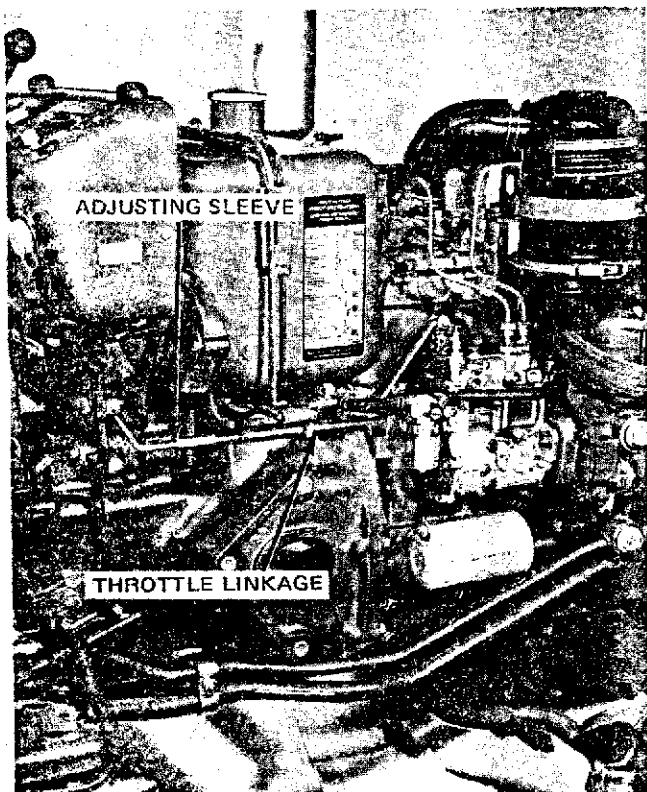

Figure 43 — Throttle Adjustment
1. Loosen the lock nuts, Figure 43.